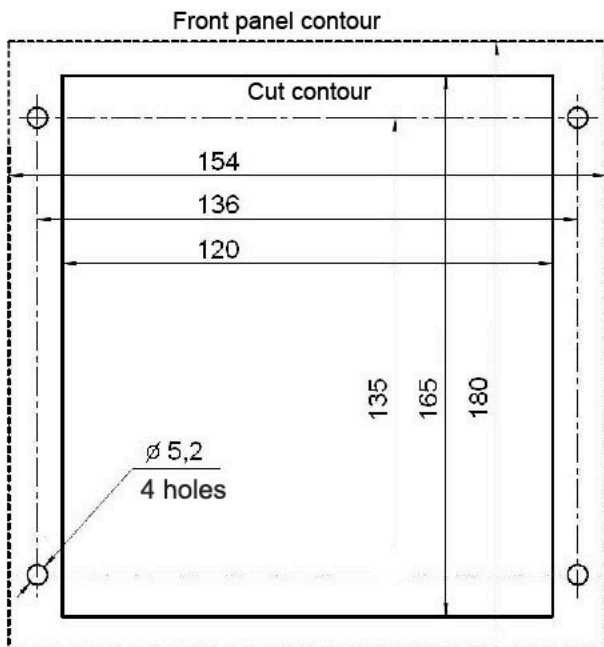

Figure 1. Markup for installation of the outdoor panel
2. Prepare a niche for installing outdoor panel (see the layout in Figure 1).